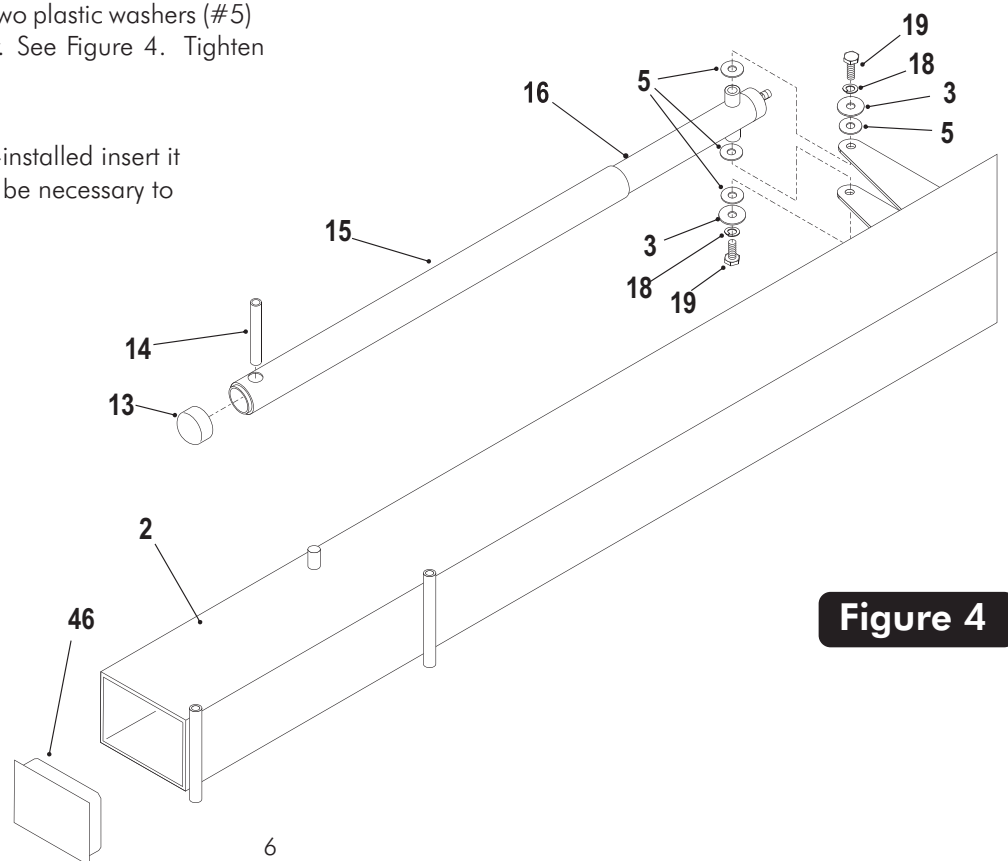

Figure 4
2. Slide Actuator Sleeve (#15) over Actuator (#16) and place Actuator Cap (#13) on top. Slide Pivot Tube (#14) in hole near the top of **Steel Actuator** and **Plastic Actuator Sleeve** until equal amounts stick out on both sides of Actuator. See Figure 4.
3. Lay Pole (#2) on its side on two padded saw horses. Attach Actuator (#16) to Pole (#2) using one bolt (#19), split lockwasher (#18), washer (#3) and two plastic washers (#5) to thread into each side of Actuator. See Figure 4. Tighten bolts tight.